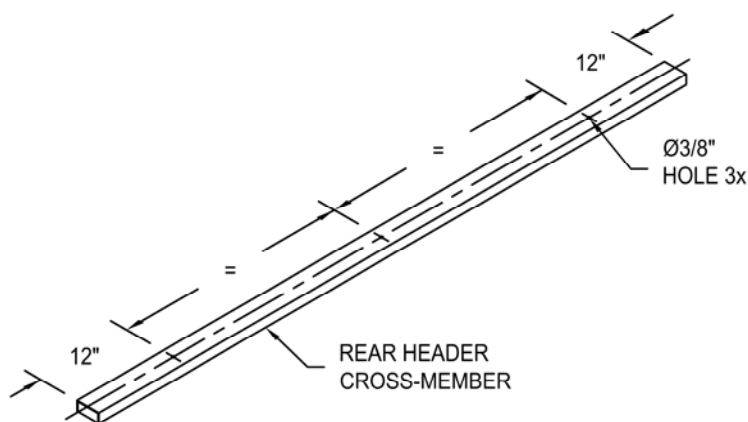

FIG. 7
* Lay rear header cross-member on floor and mark mounting holes with one (1) at center and one 12" in from each end (fig. 7).